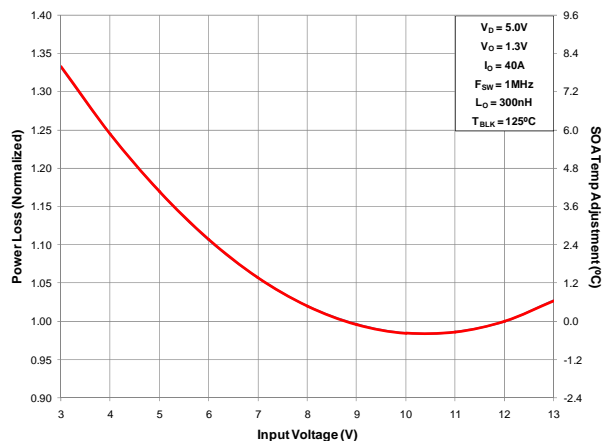

Figure 3 Normalized Power Loss vs. Input Voltage
| (Figure 3) | Normalized power loss for input voltage ≈ 0.98 |
- (Figure 3) SOA temperature adjustment for input voltage $\approx -0.5^{\circ}\text{C}$